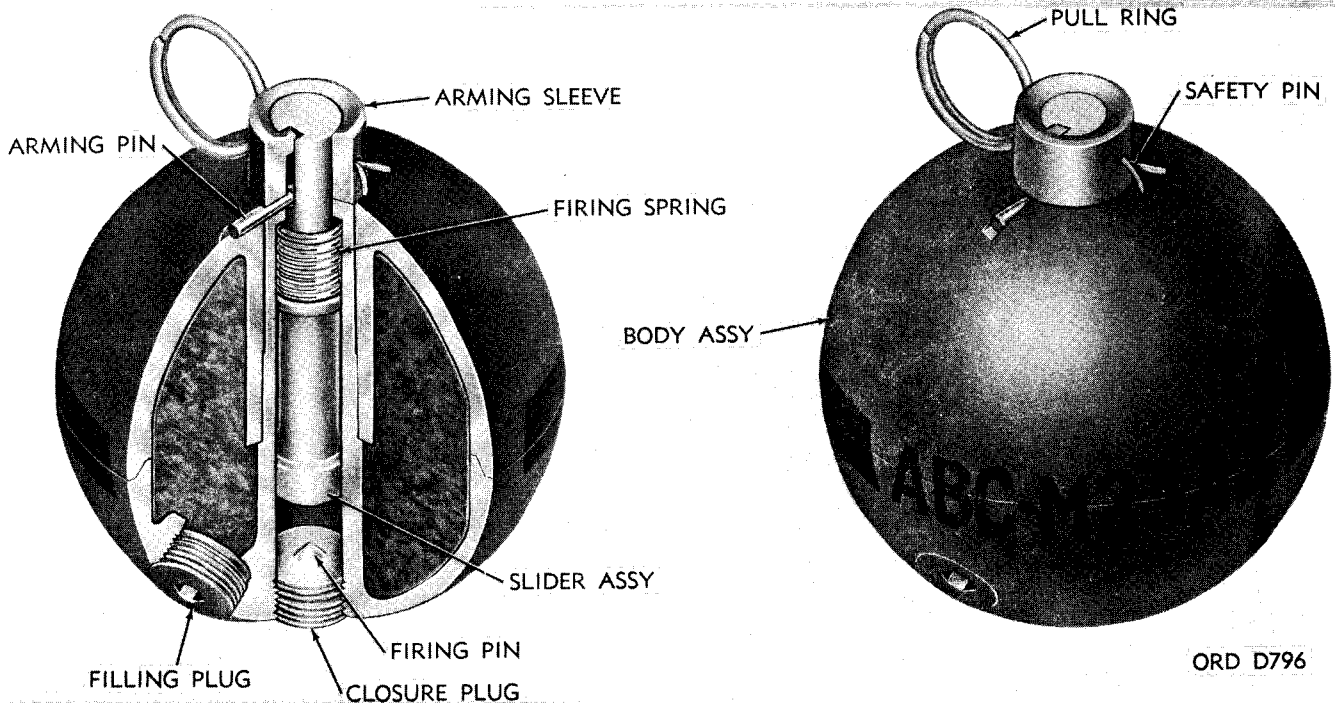

Figure 2-21. CN1 hand grenade ABC-M25A2.
a. *General.* CN1 Hand Grenades ABC-M25A1 and ABC-M25A2 (fig. 2-21) are bursting type grenades used for riot control and to simulate casualty agents during training. CN1 has a powerful lachrimal effect and is irritating to the upper respiratory passages. In higher concentrations, it is irritating to the skin, causing a burning and itching sensation. The onset of incapacitation is from 15 to 30 seconds and the duration from 5 to 20 minutes depending upon dosage concentration.
a. *General.* Grenade CS1, ABC-M25A2 is similar to Grenade, CN1, ABC-M25A2 (fig. 2-21). It is a bursting-type riot control agent grenade and may be used to simulate casualty agents during training. CS has a powerful lachrimal effect and is irritating to the upper respiratory passages, causing coughing, difficulty in breathing and chest tightness. Heavy concentrations will cause nausea and vomiting as well. The onset of incapacitation is 15 to 30 seconds and duration from 30 minutes to several hours depending upon the dosage concentration. CS is more persistent and has a more severe reaction than CN.